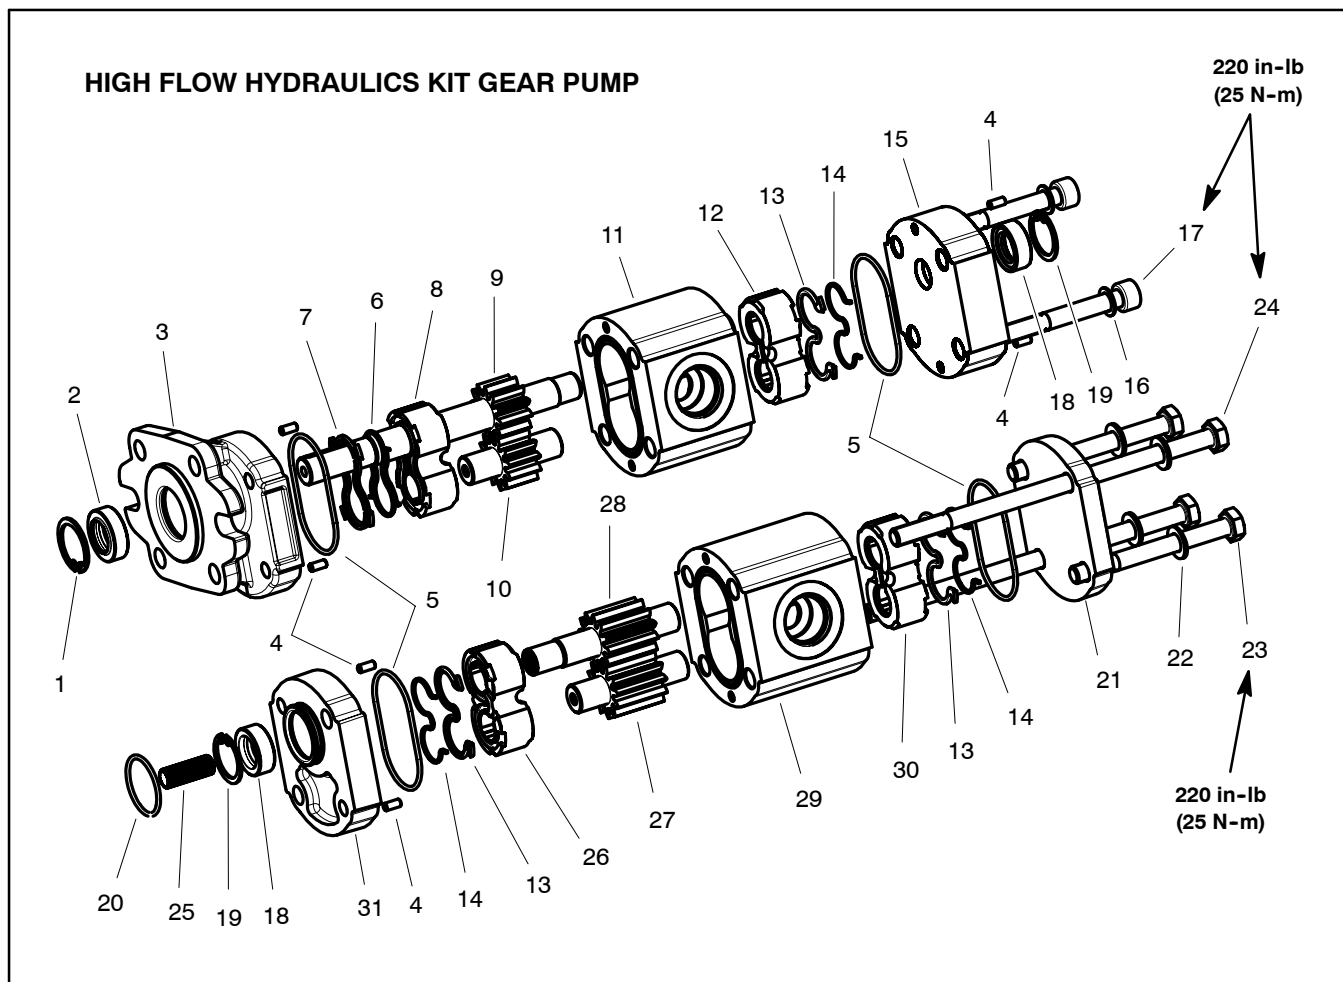

Figure 31
The gear pump assembly used on Workman HDX and HDX-D vehicle equipped with the High Flow Hydraulics Kit is shown in Figure 31. When servicing this gear pump, follow the procedure for Gear Pump Service in this section and the following:
1. Use Figure 31 as a guide when servicing pump.